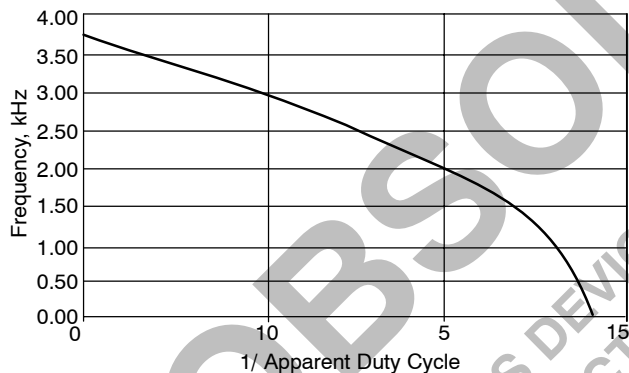

Figure 17. Normalized Input Filter Capacitor Ripple Current
12. Calculate Input Filter Capacitor Ripple Current. Use the chart in Figure 17 to calculate the normalized ripple current (K_{RMS}) based on the reciprocal of Apparent Duty Cycle. Then multiply the input current by K_{RMS} to obtain the Input Filter Capacitor Ripple Current.